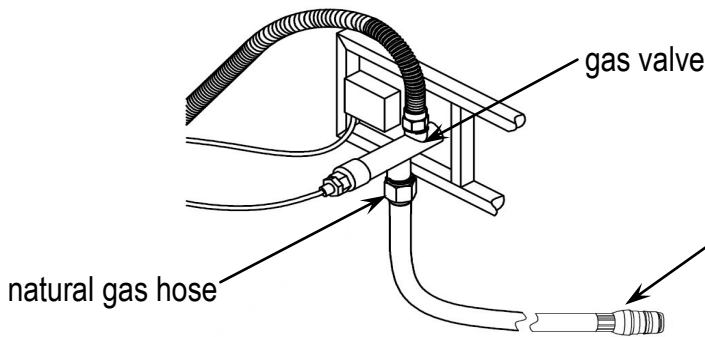
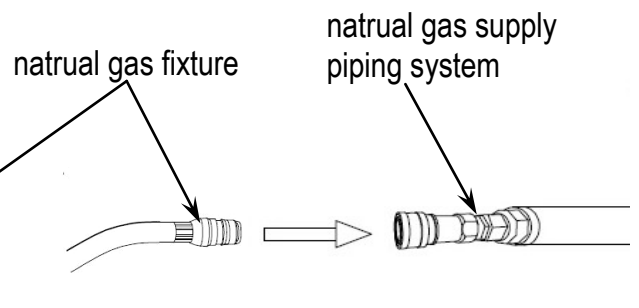

Figure 11
Figure 12
- Connect the natural gas hose with the gas valve by screwing clockwise tightly (see Figure 11). Plug the natural gas fixture into the natural gas supply piping system (see Figure 12).